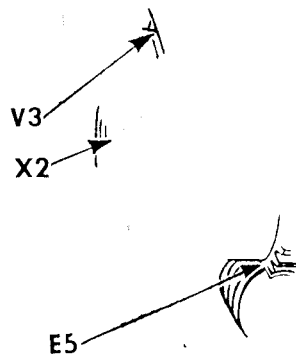

Fig. 12. Feed Cam
**V3.** Where the feed plate carrier driving arm roller travels in the feed cam **X2**. (See Fig. 12.)
**E5.** To the feed cam driving worm and gear located at the upper side of the feed cam **X2** as shown in Fig. 12.